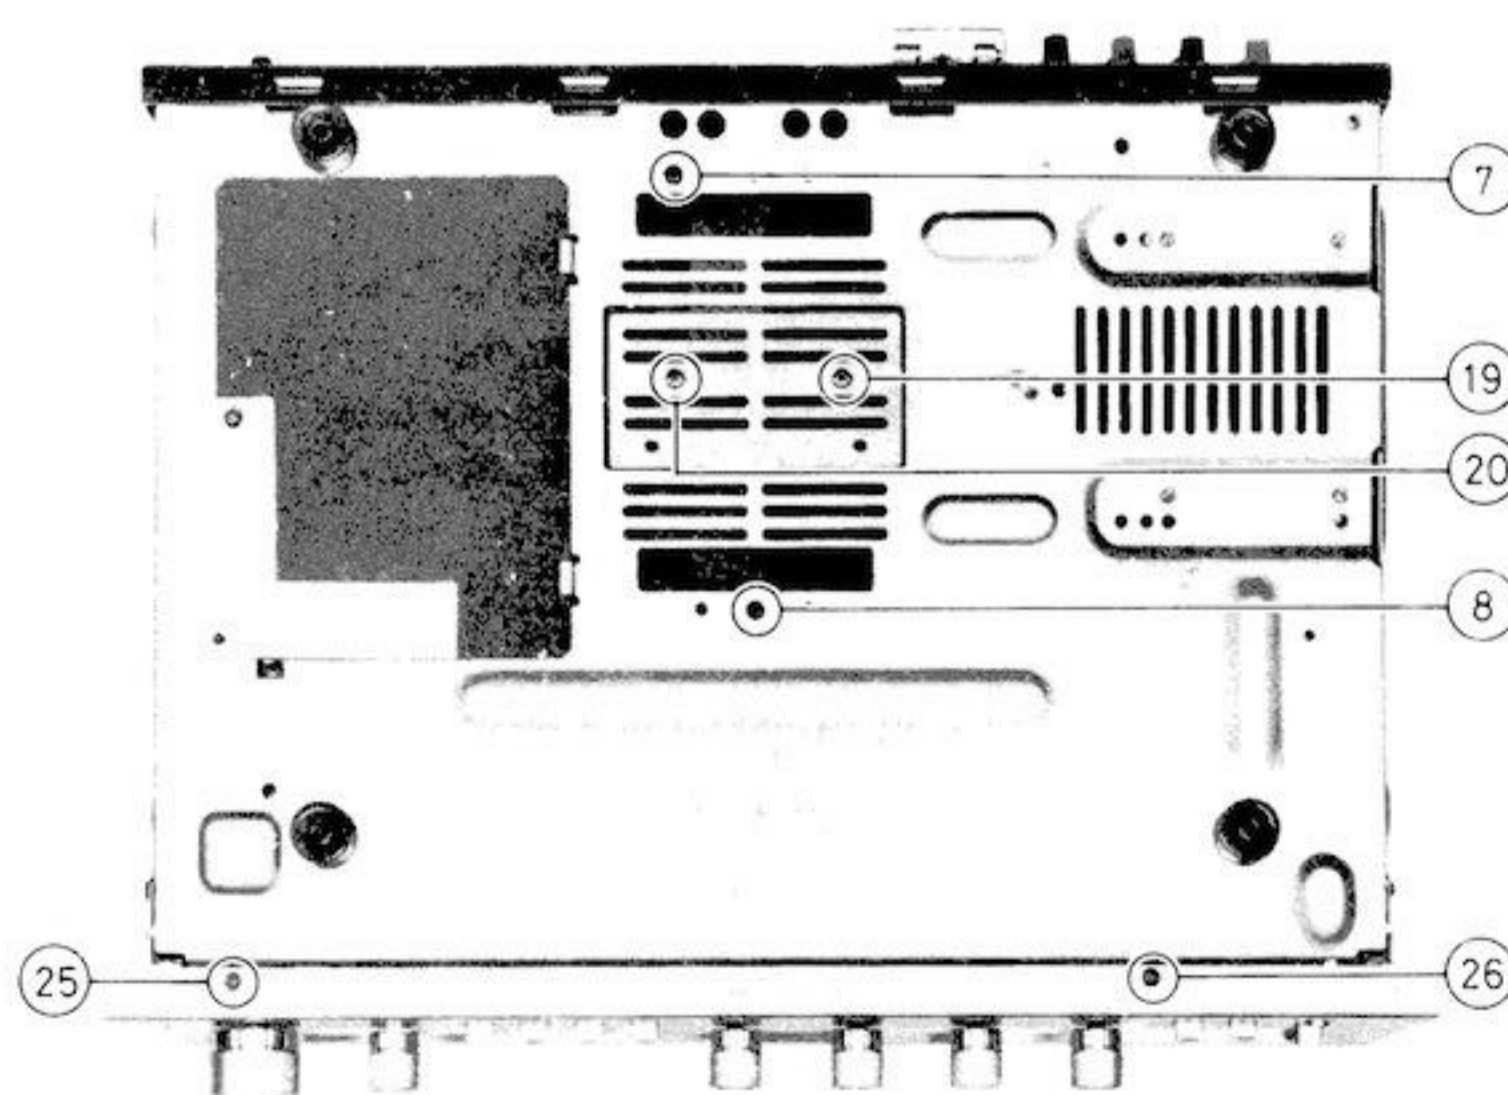
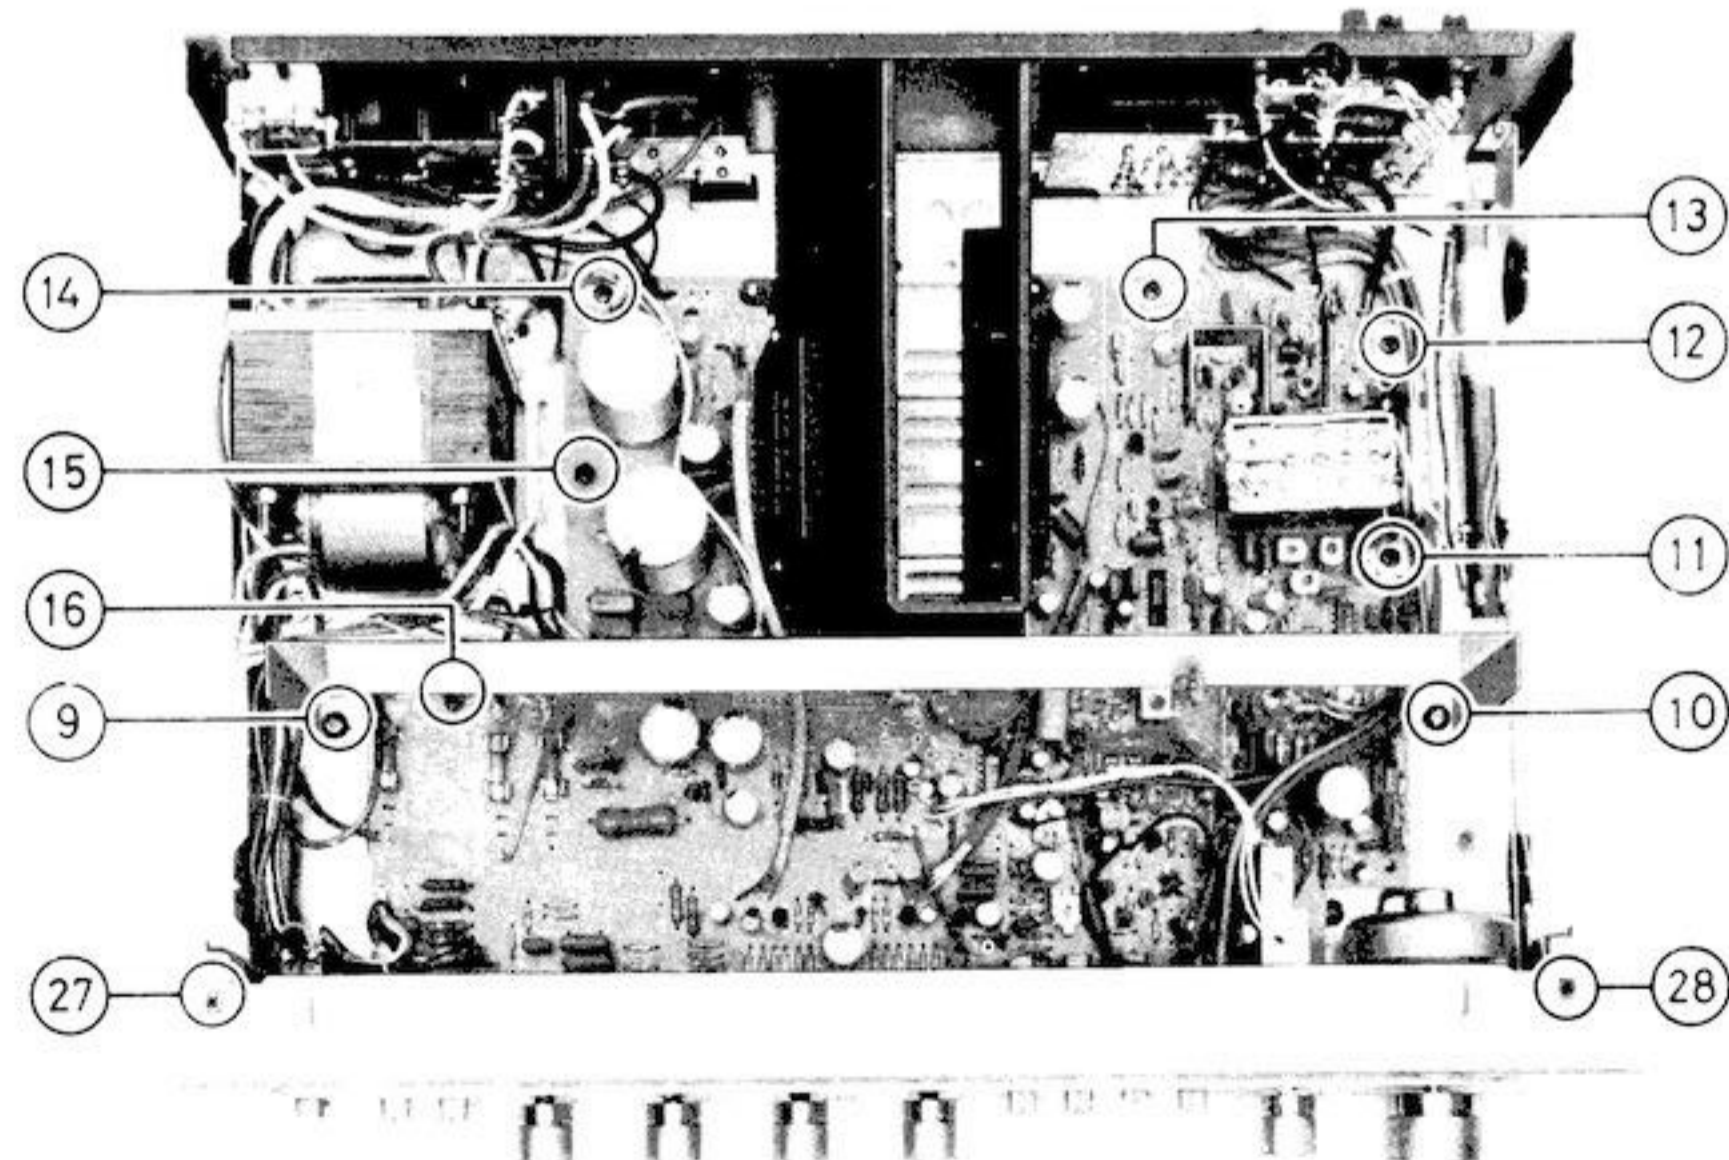

Fig. 4
Fig. 5
2. Remove two (2) heat sink-mounting screws, nos. ⑦ and ⑧ as shown in fig. 4.
3. Remove two (2) dial light reflection board-mounting screws, nos. ⑨ and ⑩ as shown in fig. 5.
4. Remove six (6) printed circuit board-mounting screws, nos. ⑪ ~ ⑯ as shown in fig. 5.
2. Remove two (2) IC cover-mounting screws of bottom board, nos. ⑲ and ⑳ as shown in fig. 4.
3. Remove four (4) front panel-mounting screws, nos. 25 ~ 28 as shown in fig. 4 and fig. 5.